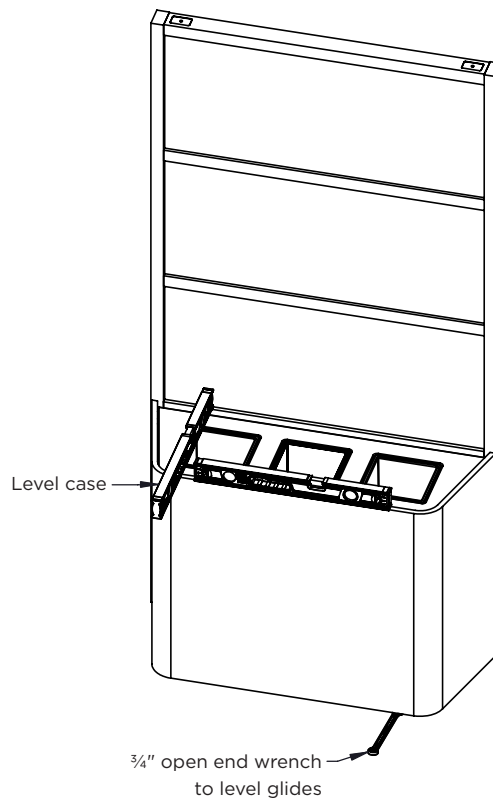

Figure 5A
1. Start with the middle unit in the ganging series. Position in the final install location and level unit with the glides. A $\frac{3}{4}$ " open end wrench can be used to adjust the glide. (**Figure 5A**)